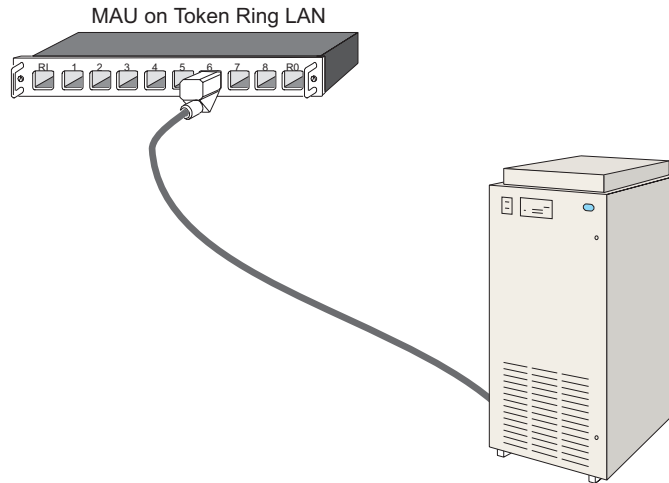

Figure 6-18. Connecting Director to LAN
2. Route the end of the Token-Ring cable (attached to the TKRG card) through the access hole in the bottom of the Director (Figure 6-18). If two TKRG cards are installed with connected cables, route the ends of both cables through the access hole. Connect each cable to a MAU on the Token-Ring LAN where you can establish a connection with the Console.
- Although Figure 6-18 illustrates one cable connecting the Director to a MAU, if the Director contains two TKRG cards and two cables, connect both cables to a MAU or each cable to a separate MAU. The TKRG card in slot #0 is the active address on the LAN and will be used to communicate with the Console. If the card in slot #0 should fail, the TKRG card in slot #1 will assume the same active address and allow communications with the Console.